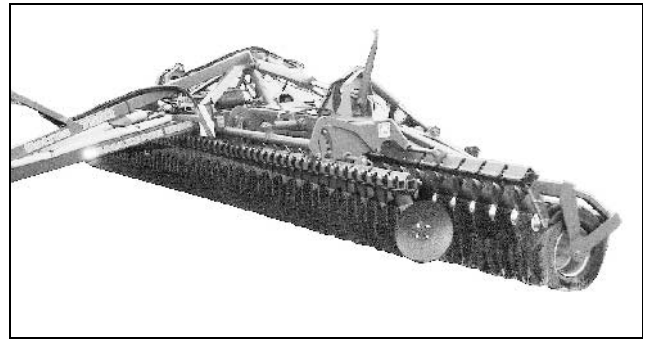

Fig. 21
- Lift the implement, headland position! (Fig. 21)